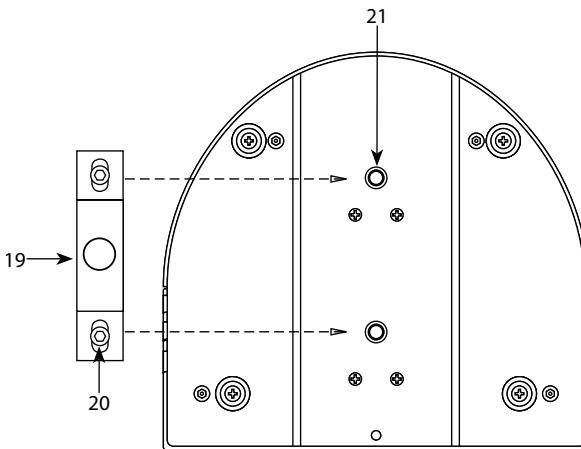

Fig. 3
The M200LED may be set up on a solid and even surface. By means of the fixing facilities of the base plate, the unit can also be mounted upside down to a cross arm. The base plate is shown in figure 3. For fixing, stable mounting clips are required. Directly screw the clips into the M6 threads or fasten them to the supplied mounting brackets (19). As shown in the figure, place the bolts (20) of the bracket into the openings (21) provided in the base plate. The mounting place must be of sufficient stability and be able to support a weight of 10 times of the unit's weight.